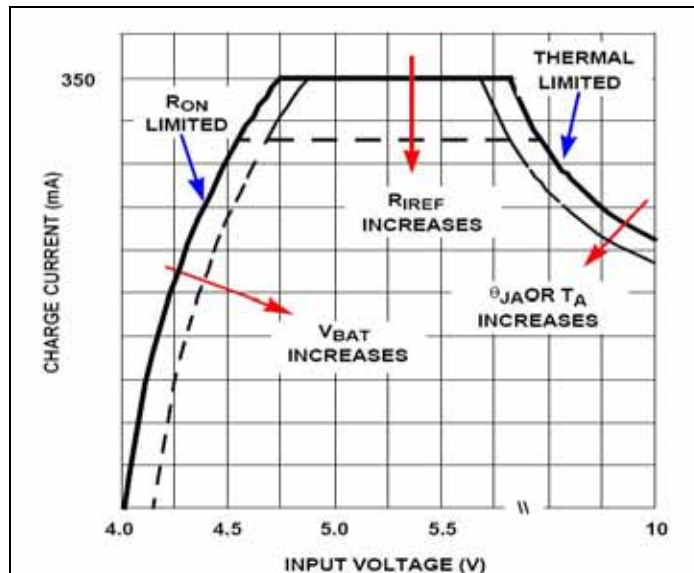

Figure 5: PT8A2803 Charge Current Limits In CC Mode
During the constant-current (CC) charging mode, the charging current is primarily determined by I_{CHG} as calculated in previous formula. However, the actual charge current in the CC mode could also be limited by other factors as described by below **Figure 5**. When the input (V_{IN}) and output (V_{BAT}) voltage are too close to each other, the on-resistance of the internal pass element may limit the amount of current that passes through it. For example, the solid curve describes a typical case in which the battery voltage is 4.0V and the charge current (I_{CHG}) is set at 350mA. When the input voltage is sufficiently higher than the battery voltage but has not increased the die temperature over the thermal limit yet, the charging current is accurately regulated at 350mA.